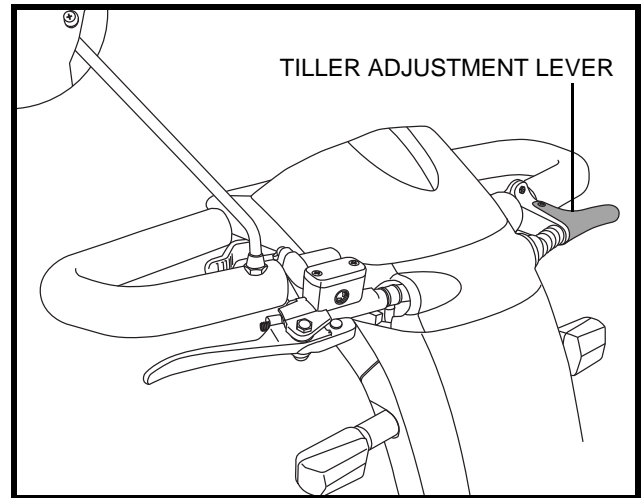

Figure 16. Tiller Adjustment
1. Squeeze the tiller adjustment lever. **See figure 16.**